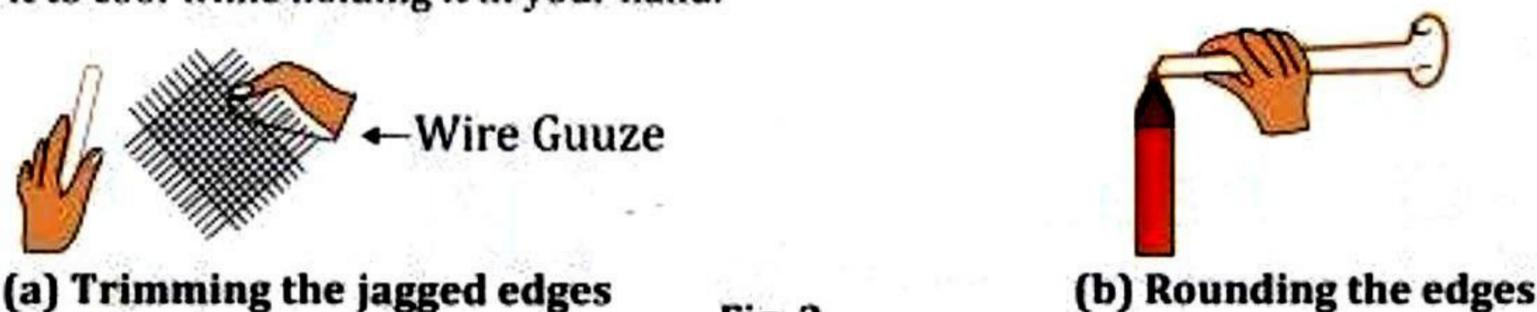

Fig. 2
- (iv) Sometimes, the ends of the tube are not smooth and might bruise your fingers. These can be further smoothed by rotating the ends in a flame for 2-3 minutes. The edges will be smoothed (Fig.2). Allow it to cool while holding it in your hand.